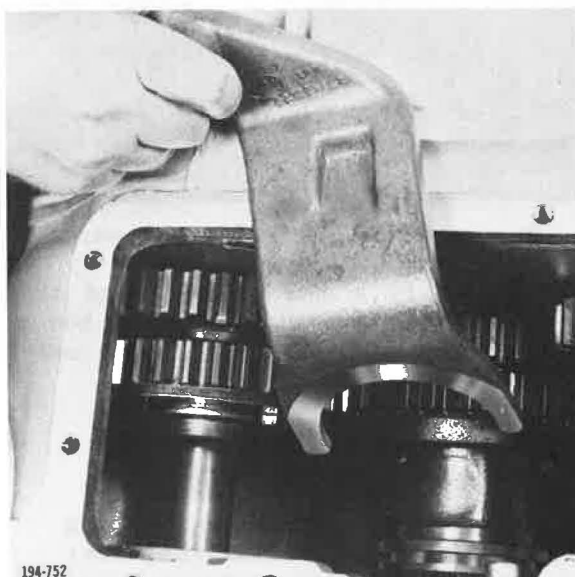

Figure 408. Installing Shift Fork
26. Install front compound shift fork. See Figure 408.